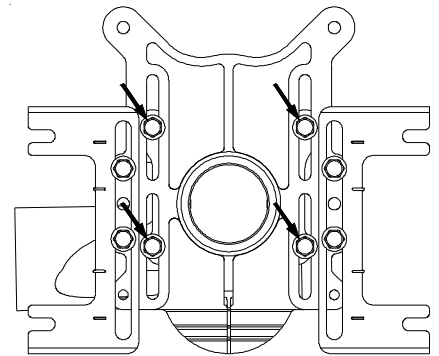

Fig. 5
5. Remove the faceplate/feet from trim kit boxes and align the faceplate slots with the gasket and fitting holes. Using four 1/2" bolts from the Fitting & Faceplate hardware bag, secure the bolts with a ratcheting wrench (25-35 lb-ft of torque). See Fig. 5